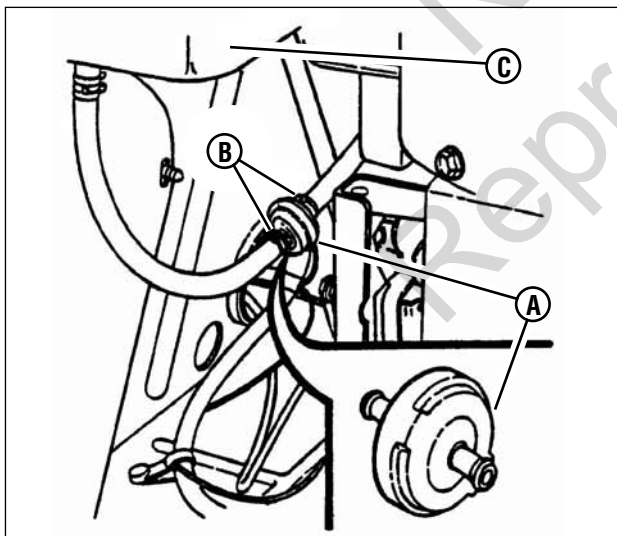

Figure 30: Replacing the fuel filter
3. Remove the hose clamps (**B**, **Figure 30**) from the fuel filter (**A**).